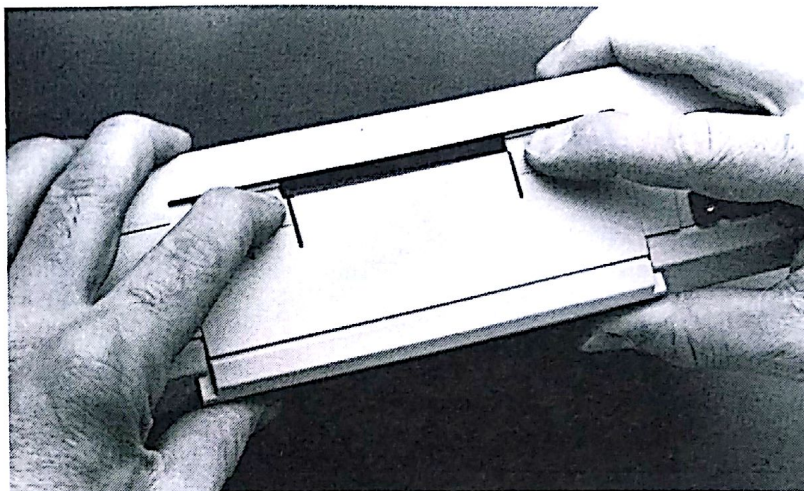

Figure 6-1. Removing the Battery Cover
1. Remove the battery cover by pressing on the ribbed latches and sliding the cover down (figure 6-1).